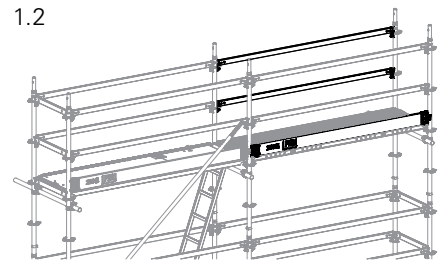

Fig. A4.01b
- Ledger UH on the inside and Toeboards (Fig. A4.01b)